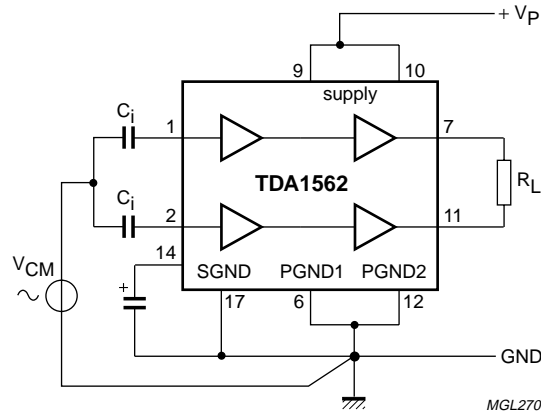

Fig.9 CMRR test setup.
- Common mode rejection ratio is measured across  $R_L$ ;  $V_{cm} = V_{cm\ max.} = 2 V_{PP}$ . CMMR [dB] = differential gain ( $G_v$ ) + common mode attenuation (Ac), (Test setup according Fig. 9; mismatch of input coupling capacitors **excluded**).